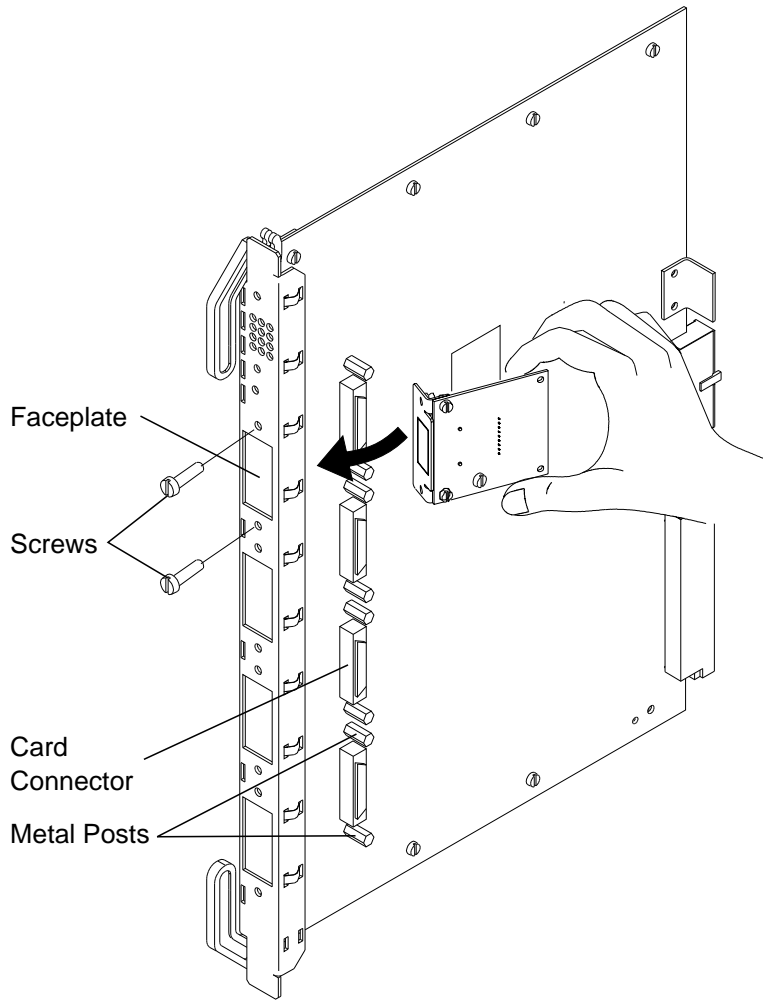

Figure 5. Installing an I/O Card on the 155 Mbps Module Motherboard
- \_\_\_ **3** Hold the I/O card so that its connector and screw holes are aligned over the connector and small metal posts on the motherboard (see Figure 5 on page 22). Then gently push the card forward (so that its port fits into the opening on the motherboard front panel) and down until you hear it click into the motherboard connector.
When installing an I/O card on the motherboard, be careful not to touch its components. Always hold the card by the faceplate or by its edges as shown in Figure 5.